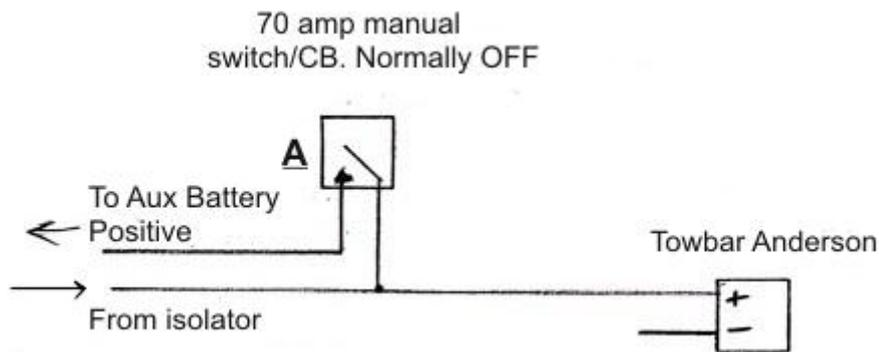

Figure 1
This was easily achieved with a switch (A) between the output from the isolator and the towbar Anderson, as Figure 1 shows: